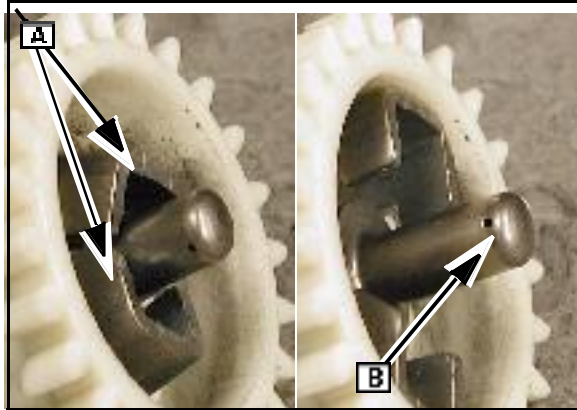

Fig. 1
A governor system operates by transmitting engine RPM through a pair of flyweights (A) that retract and extend a sliding cup ([B] Fig. 1).